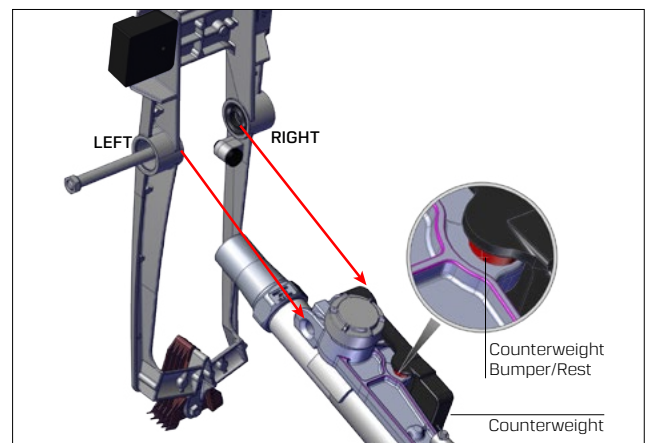

Fig. 19.
- B. Place the counterweight in alignment on **RIGHT** side of gun, resting on the bumper of the shift lever (see Fig. 19). Grasp drive arm and hold vertically with drive vane down. Move drive arm hubs into position, engaging **RIGHT** bearing hub with counterweight. Roll **LEFT** bearing hub into position.